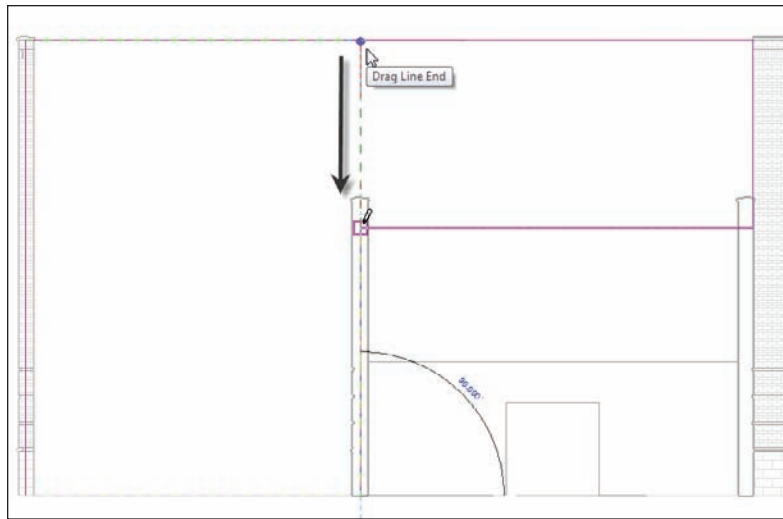

FIGURE 3.47 Closing the wall by stretching the line using grips
15. You now have a closed loop, as shown in Figure 3.47.